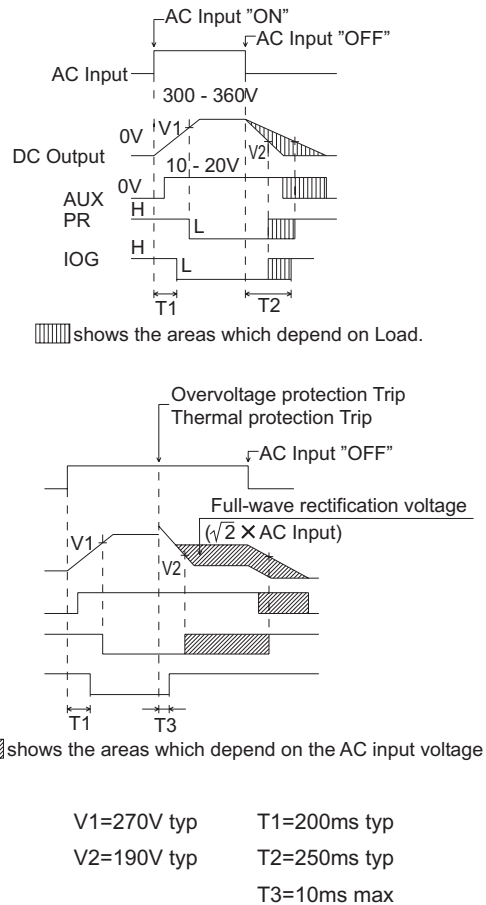

Fig. 2.1 Sequence
- Refer to Fig.2.1 for the sequence of the IOG signal.
- By using a PR pin, the output voltage of the unit can be monitored. The PR pin is an open collector(maximum applicable voltage: 35V, maximum sink current 5mA). When the output voltage is beyond the rated range, the level is set to "Low"(0 - 1.2 V). Refer to Fig. 2.1 for the sequence of the PR signal.